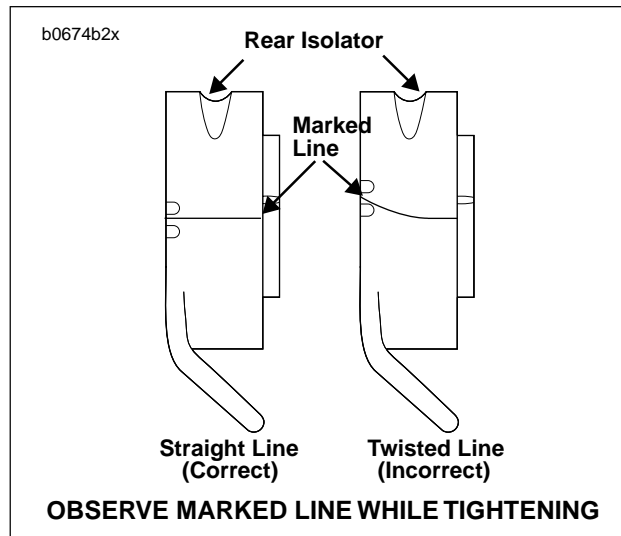

Figure 2-85. Checking Isolator Alignment
5. See Figure 2-85. Mark a horizontal line across the front of each isolator with a light colored grease pencil or by other non-permanent means.